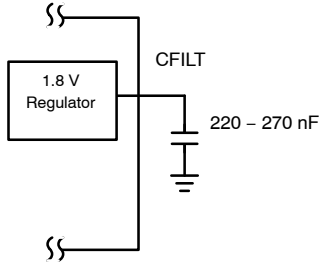

Figure 4. CFILT Capacitor
| 5 | CFILT | Analog | Connection for external filter capacitor for internal +1.8 V regulator; see Figure 4. |
3. C_{FILT} capacitor must be installed; see Figure 4.
4. Outputs loaded with 15 pF max to ground. C_{FILT} capacitor must be installed; see Figure 4.